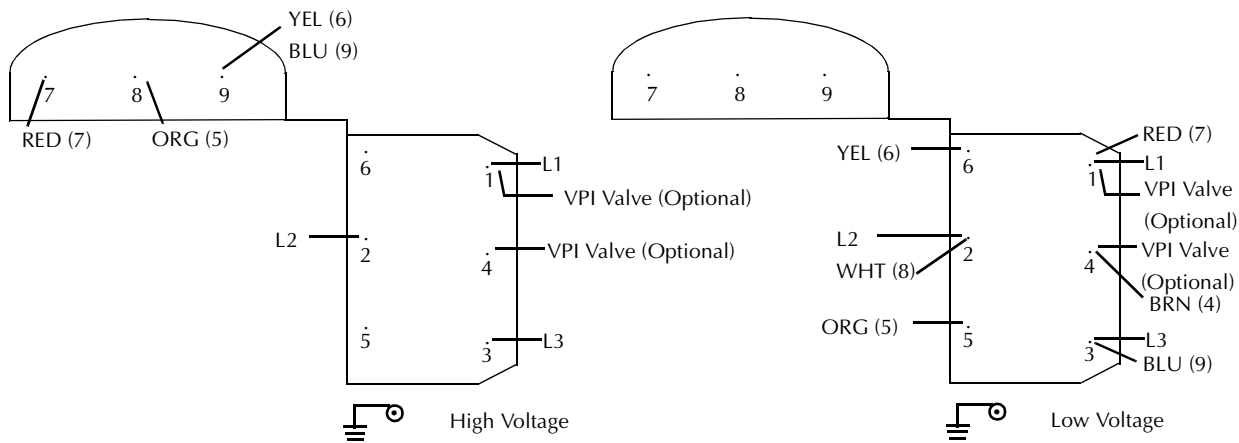

Figure 5 Motor Electrical Connections: 3 Phase Motor
2. Check the electrical supply voltage. The motor can be wired for low (200 - 230) or high (380 - 415, 460) voltage. As supplied from the factory, the three phase motor is wired for low voltage. Refer to Figure 5 on page 8 to configure the motor circuit to match your supply voltage.
3. Wire L 1, L2 and L3 per Figure 5 using right angle flag connectors or ring connectors. Make certain that no exposed wiring is in proximity to the electrical cover or to other terminals on the board.
5. Install the motor electrical cover with three (3) screws.